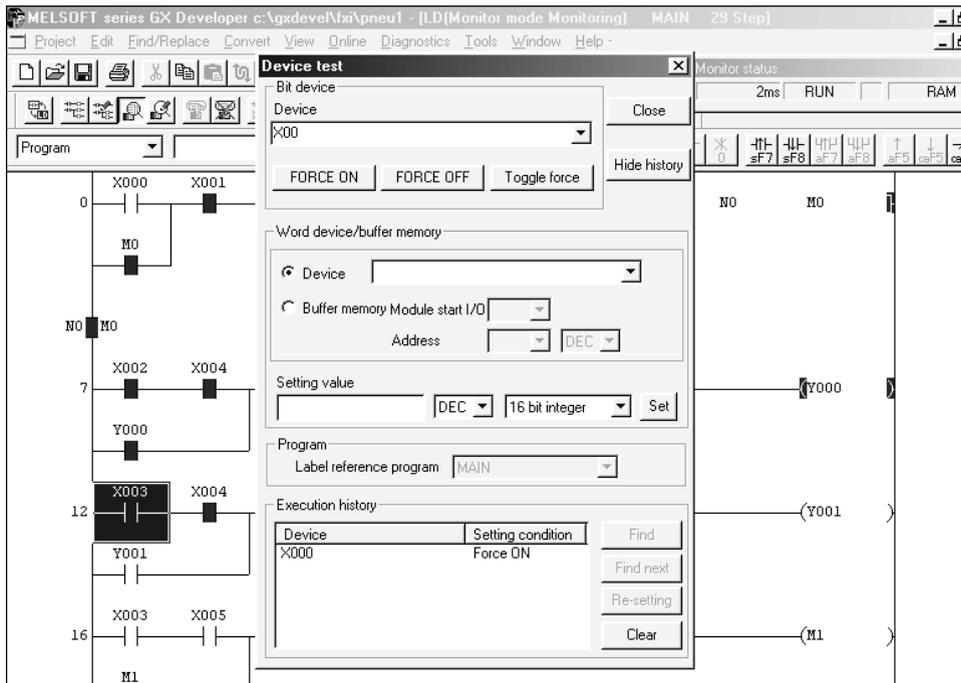

Figure 8.7
7. The Output Y0 is turned ON due to the Input X0 being forced ON and starting the operation of PNEU1 (Figure 8.7).